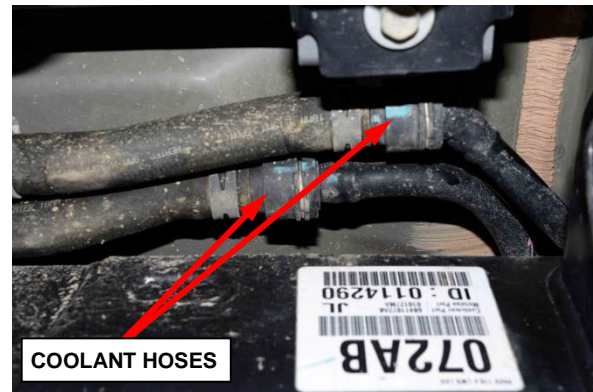

Figure 16 – Coolant Hoses
29. Position a drain pan under the coolant hoses (Figure 16).
30. Remove the coolant hoses from the coolant line and drain the power electronics cooling system (Figure 16).
31. Once the system is completely drained, reinstall the coolant hose to the coolant line (Figure 16).